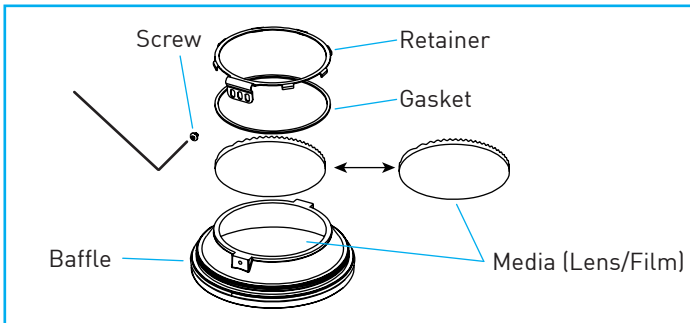

Fig.25
C. To change lens / film, remove lens retainer and gasket by loosening and removing screw. Insert preferred lens / film in proper orientation, securing with lens retainer / gasket and replacing and tightening screws "Fig.25".
- Reinstall adjustment mechanism by installing shoulder screws and tightening the locking screw "Fig.25".